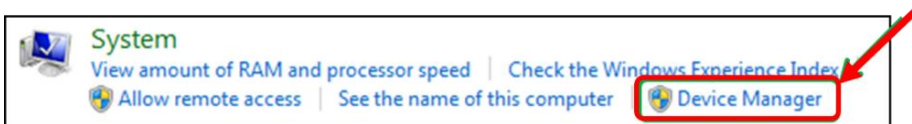

Fig. 14 System window.
- Navigate through System and security, System to Device manager (Fig. 14)